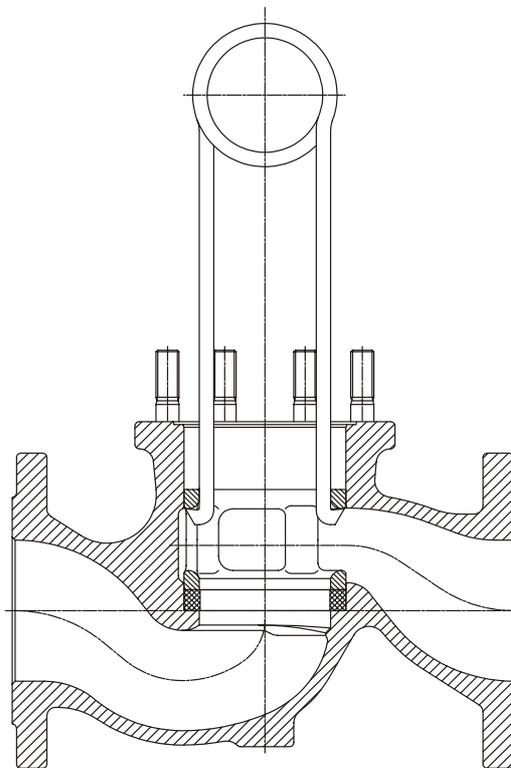

Fig.4
- *Remove lantern bush (Pos.5) using lantern bush extractor, (see Page 10 Fig.4)*